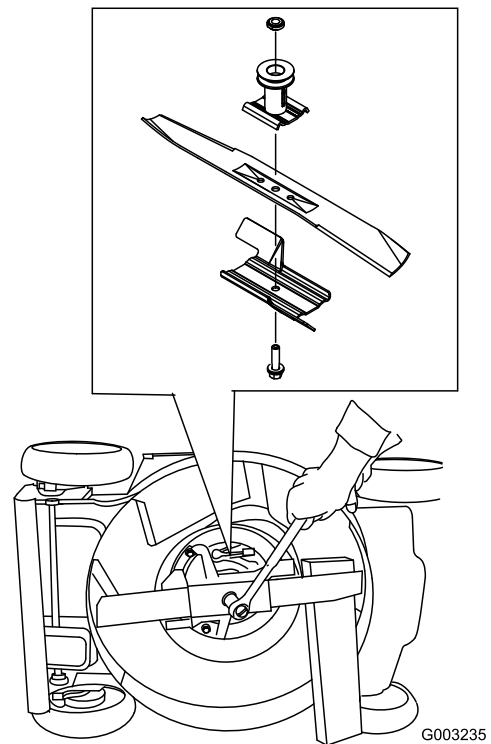

Figure 32
3. Use a block of wood to hold the blade steady (Figure 32).